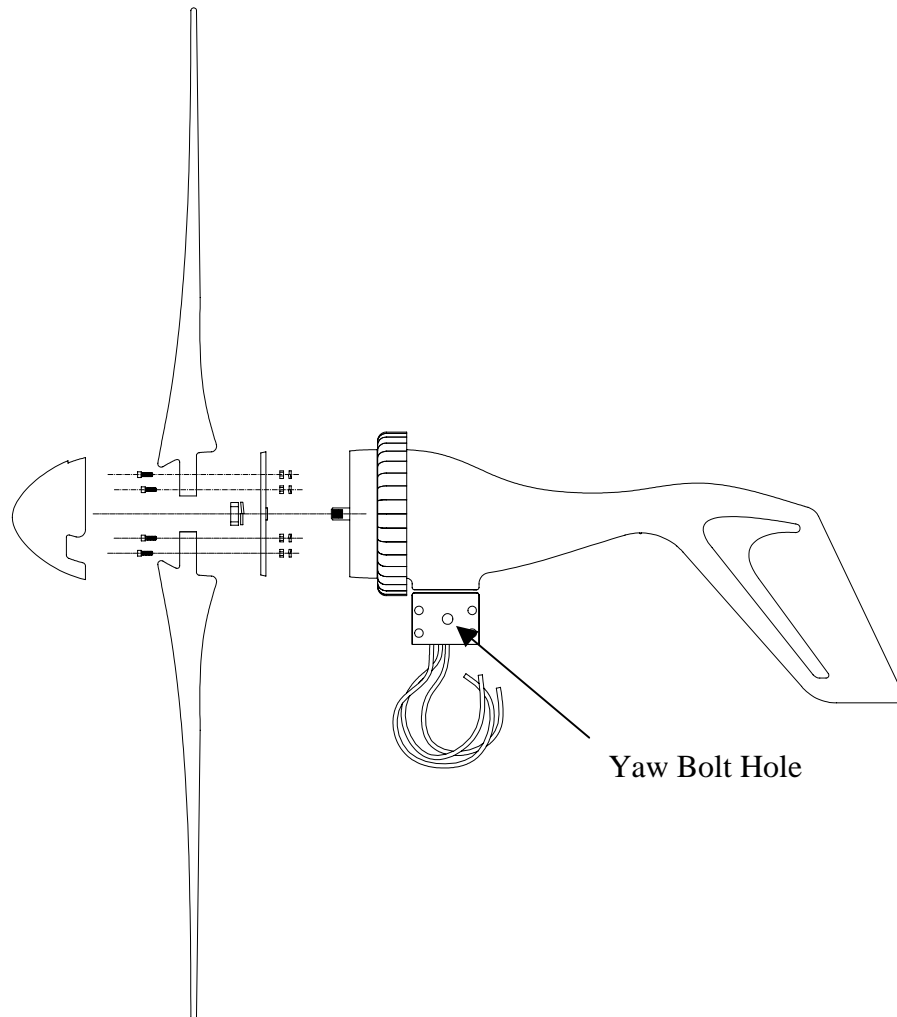

**Figure 6: Proper Blade-to-Tower Clearances**
**Note:** While attaching the turbine to the tower, be careful not to pinch the yaw wires. Make sure that your tower allows for proper clearance of the blades. A minimum 2-inch (20 mm) clearance must be given between the blade tips and any obstructions. Refer to Figure 6 below, and the “Sphere of Operation” drawing in Section 7.2 on page 28 for proper clearances.